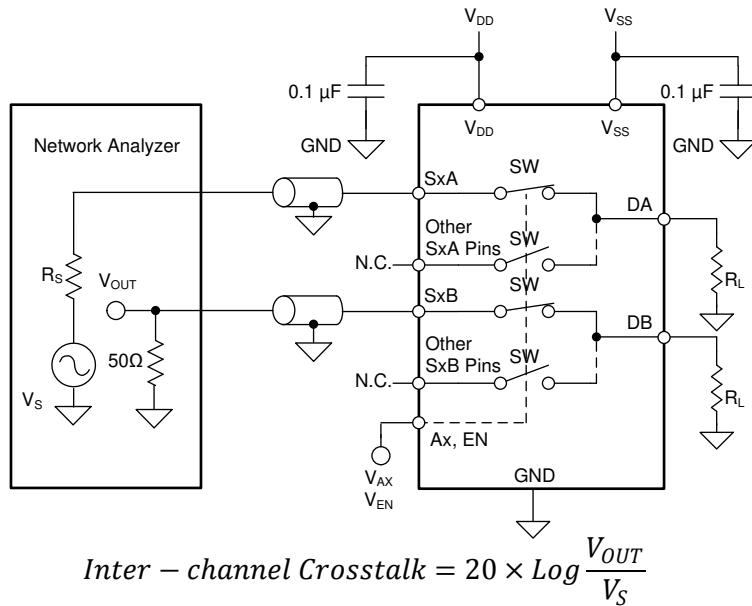

图 8-10. Inter-channel Crosstalk Measurement Setup
2. Inter-channel crosstalk ($X_{TALK(INTER)}$): the voltage at the source pin (Sx) of an on-switch input when a signal is applied at the source pin of an on-switch input in a different channel, as shown in 图 8-10. Inter-channel crosstalk applies only to the TMUX8109 device.